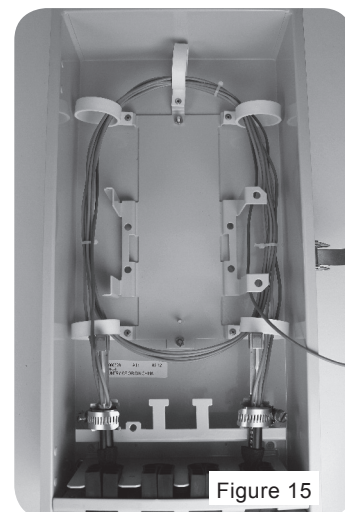

Figure 15
2. Route the expressed buffer tubes through the fiber management rings. **(Figure 15)**